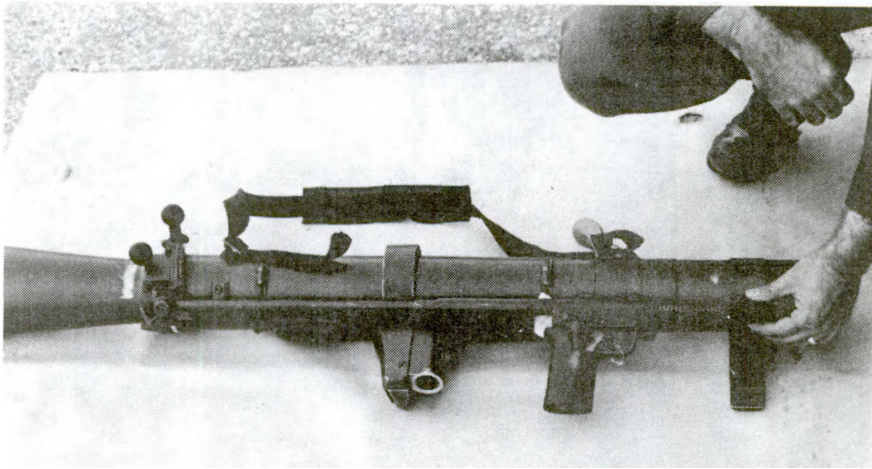

Figure 1
(1) Remove the front cap while holding the cap firmly against the pressure of firing rod spring (fig. 1).